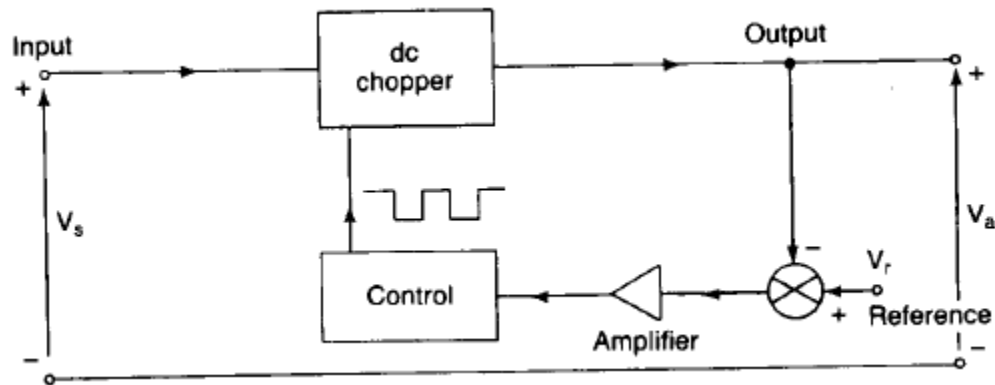

Figure 2 Schematic for PI control for boost converter
Boost converters are one of the most fundamental switch-mode converter types. Its name indicates its primary purpose, increasing the voltage from an input source. This switch consists of four parts: an inductor, a capacitor, a diode, and a semiconductor switch. DC sources such as batteries, solar panels, rectifiers, and DC generators are suitable. "DC to DC conversion" refers to the process of converting one direct current (DC) voltage to another direct current (DC) voltage. So, when the controller's output voltage is with the PI controller, the load or desired set point abruptly changes, and the PI regulator moves the boost converter's output much closer to the working point. Figure 2 shows the boost converter circuit with the PI controller.